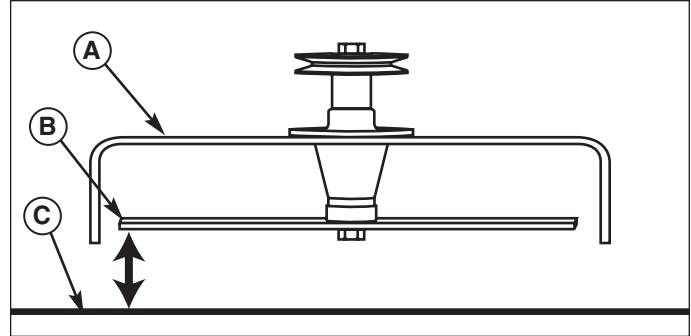

Figure 19. Measure Blade Tips to Ground
7. Measure the distance from the ground to the front tip of the center blade, and from the ground to rear tips of left-hand and right-hand blades (Figures 19 & 21). The front tip of the center blade should be 1/4" (6mm) higher than rear tips of left-hand and right-hand blades. If not, proceed with steps 8 - 11.